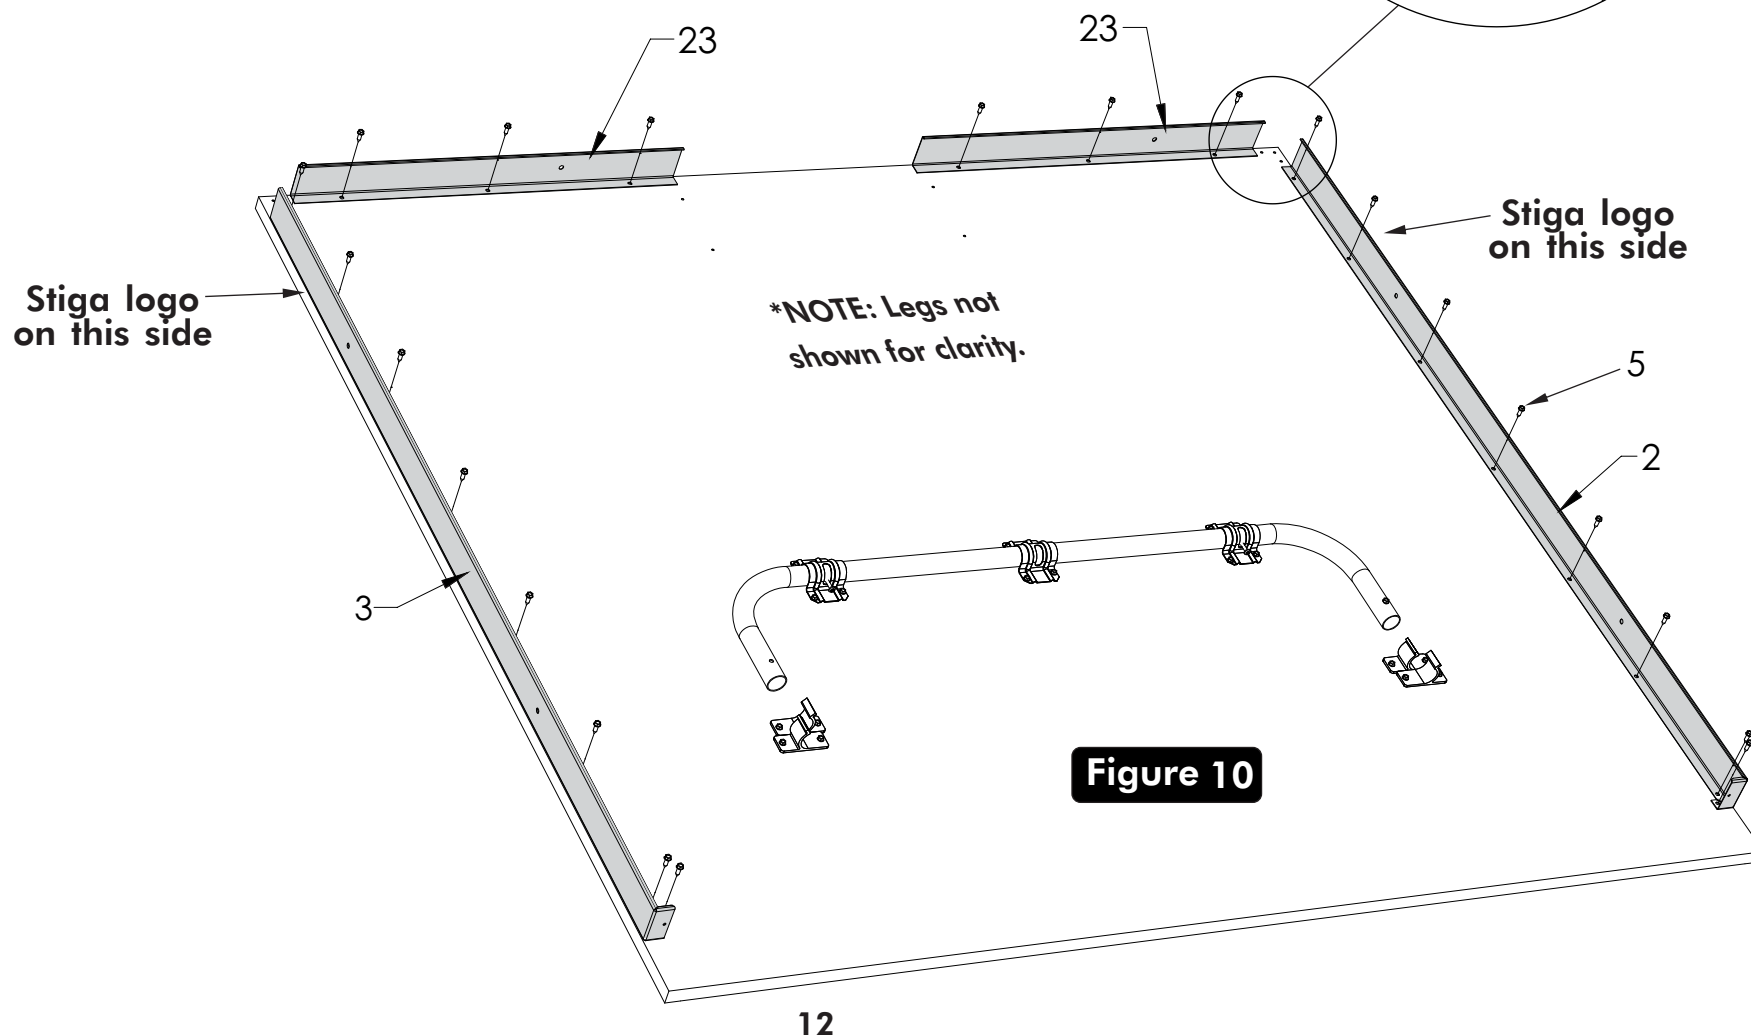

Figure 10
15. Lay out Rails (#2, #3, & #23) around edges of table top. See **Figure 10**.
16. Line up holes in rails with Indentations in table top and secure using Screws (#5). See **Figure 10 & Detail I**.